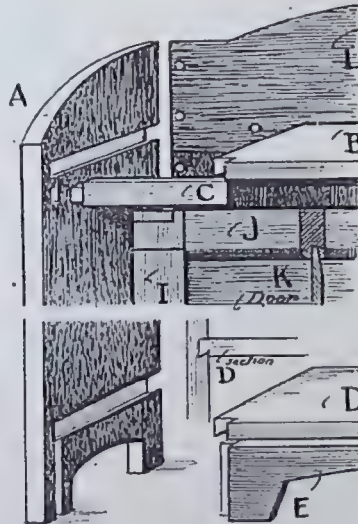

FIG. 3.—DETAILS OF CONSTRUCTION.
In getting out the stuff a start can be made with the sides (A, Fig. 3), for which two pieces, 4 feet 6 ins. long to finish 1 foot 6 ins. wide by $\frac{3}{4}$ in. thick, will be required. The upper 5 ins. is curved away to meet the back rail, and the lower 4 ins. will look well if arched with a spring of about 1 in. as indicated. The sides are also intended to be dovetail-grooved for the entry of upper and lower shelves and slotted for the front rail (C). The back edges of A may be rebated for the back, or this may be merely screwed on. For the top shelf (B) a piece 4 feet should be allowed, this length including a trifle for paring to fit. The width, which will involve glue-jointing, can finish the full 18 ins., so that the front edge may be slightly rounded off with glasspaper. The ends carry a dovetail to enter the sides (A), which, if carefully fitted, will make the whole thing neat and rigid. The top may, however, be tenoned to enter the sides or be merely grooved in, to be glue blocked and screwed through up from the underside. Sound and dry stuff only should be used for the blocks, and these should fit well into the angles; or a length of fillet 1 in. by 1 in., with the outer angle rounded off, may be glued under instead, with a neater finish.